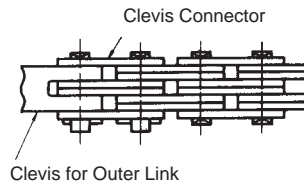

Figure 1.26 Leaf Chain
- (3) The pins articulate directly on the plates, and the bearing pressure is very high. The chains need regular lubrication. The use of SAE 30 or 40 machine oil is suggested for most applications.
- (4) When the chain speed is greater than 30 m/min., or if the chain is cycled more than 1,000 times in a day, it will wear very quickly, even with lubrication. In either of these cases, use RS Roller Chains.
- (5) AL-type should be used only under conditions in which:
- (6) If you select a chain using a low safety factor, the stress in parts becomes higher. In this situation, if the chain is used in corrosive conditions, it may fatigue and break very quickly. If you're operating under these conditions, perform maintenance frequently.
- (7) The shape of the clevis depends on the type of end link of the chain (outer link or inner link). Manufacturers produce clevis pins or clevis connectors, but typically, the user supplies the clevis (Figures 1.26 and 1.27). The strands should be furnished to length by the manufacturer. An incorrectly made clevis may reduce the working life of the chain. Contact the manufacturer or refer to the ANSI standard.
- (8) The sheaves are usually supplied by the user.